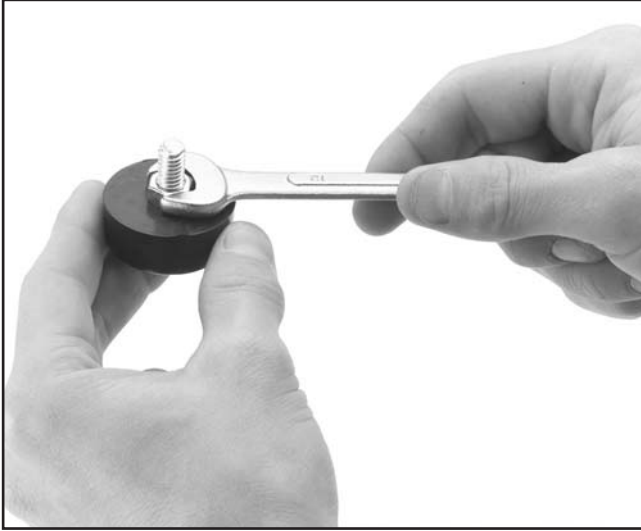

Figure 9. Preparing rubber feet for installation.
8. Prepare the four rubber feet by placing the $\frac{5}{16}$ "-18 x 1" bolts through the rubber feet and tightening the $\frac{5}{16}$ "-18 hex nuts as shown in **Figure 9**.